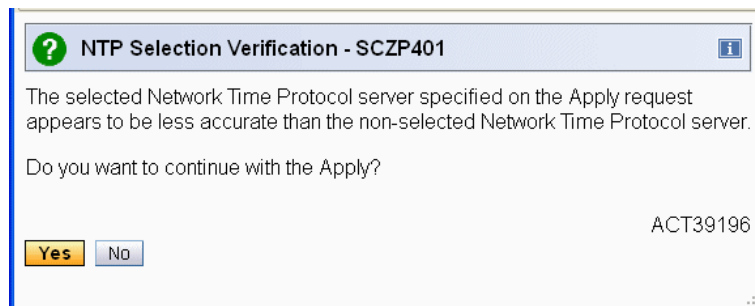

Figure 1-36 Message ACT39196 - NTP Selection Verification
- The message shown in Figure 1-36 displays if the selected NTP server is less accurate than the nonselected NTP server. In this case, you might consider defining the nonselected NTP server as the selected one.